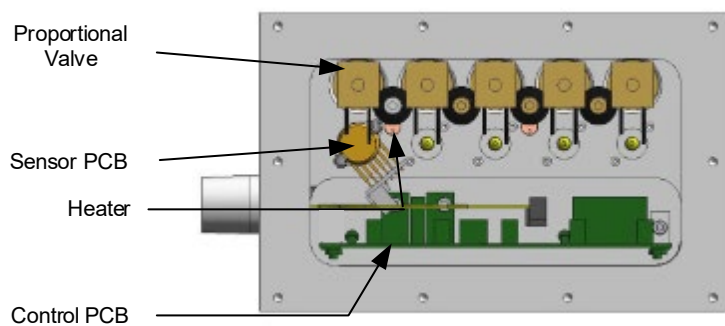

Fig. 8.18. EPC Control Assembly
8.6 EPC control assembly (see Figure 8.18)